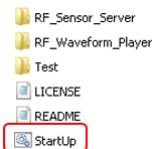

Figure 1: Start up in directory
- a) Locate and double click the “StartUp.bat” file located in the “RF Sensor Test Harness master” folder as shown in Figure 1.